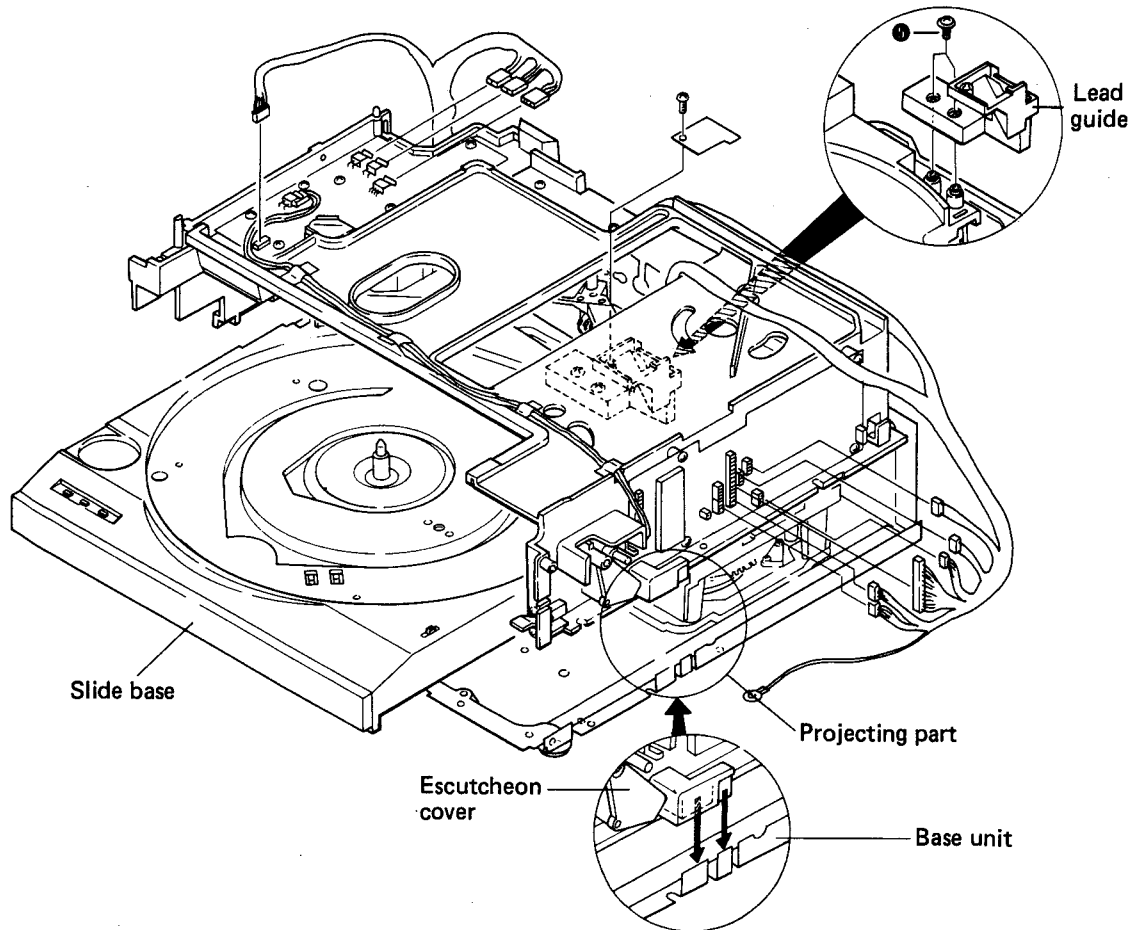
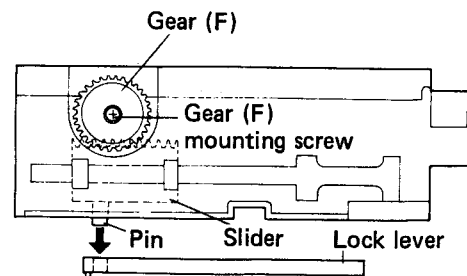

Fig. 1-3 Disassembly 2
Fig. 1-4 Mounting the escutcheon cover
5. Undo screws ❶ and carefully lift the escutcheon cover upwards to remove it. Disconnect all connectors shown in Fig. 1-3 at this time. And since the tonearm is pushed backwards with considerable force, be especially careful when removing the escutcheon cover.
2. Replace the escutcheon cover so that the sides slip over the projecting parts of the base, and then secure (Fig. 1-3). Check that the slider pin has entered the lock plate hole at this time (see Fig. 1-4).